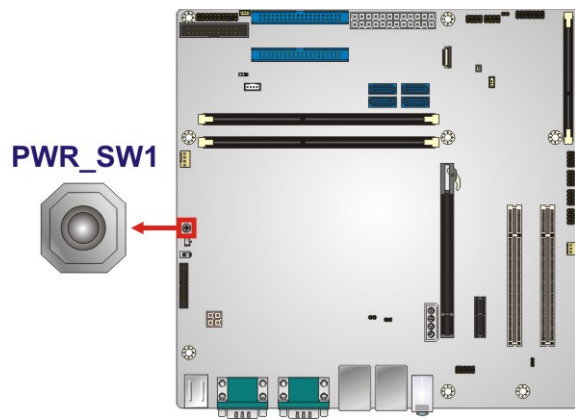

Figure 3-16: Power Button Location
- CN Location:** See **Figure 3-16**